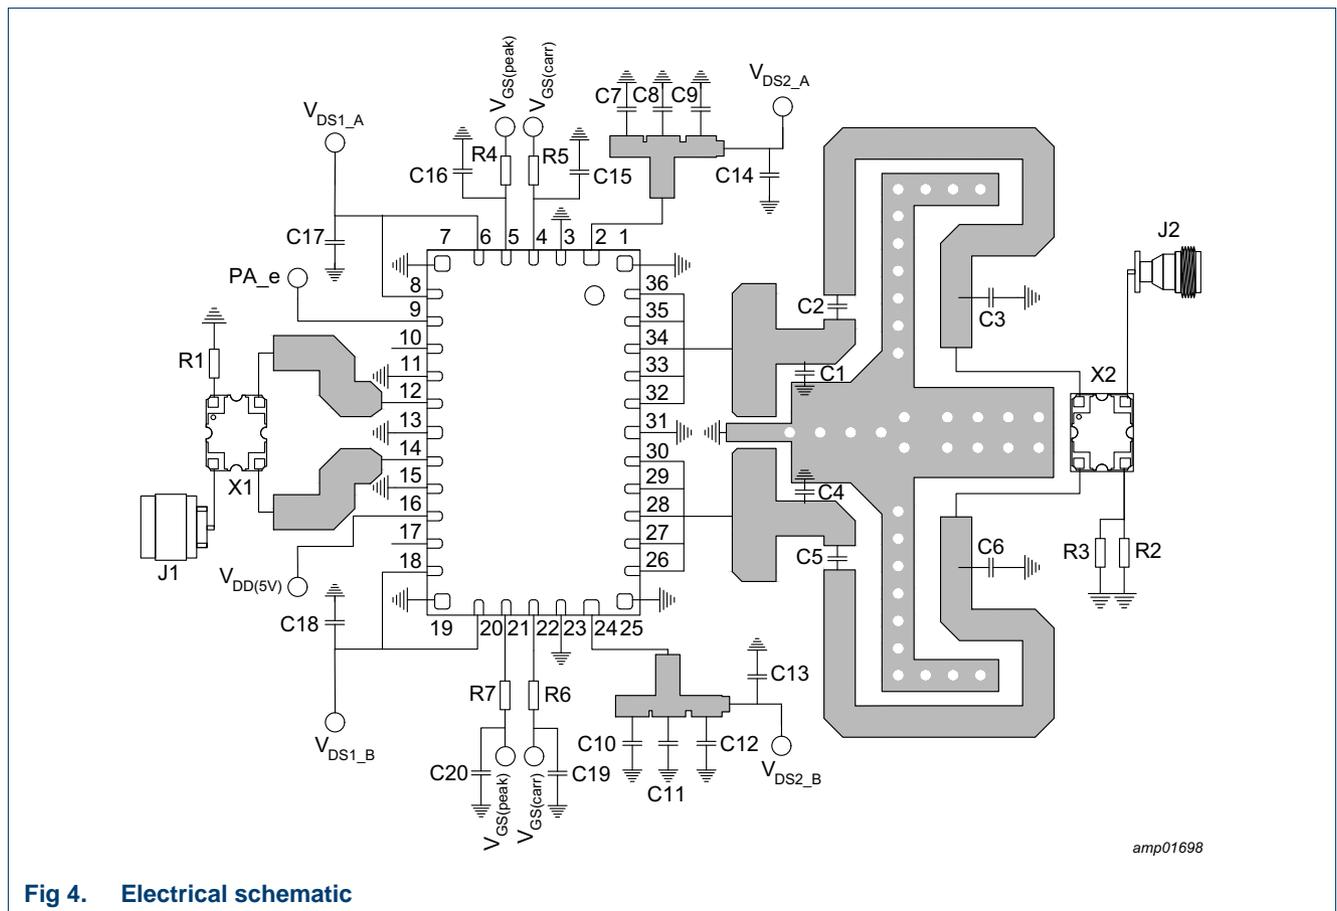

Fig 4. Electrical schematic
- In TDD mode controlled by an external bias switch, the outputs of the switches must be connected on both amplifier sections. As shown in Fig.4, gate bias supply must be connected before RC circuit of Pin 5/21 and Pin 4/22 respectively by default.